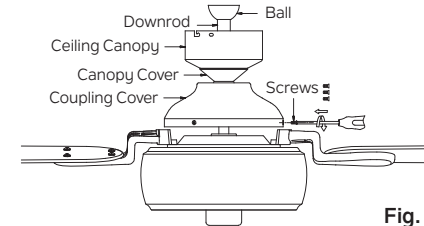

Fig. 12
**Step 10.** Tighten three set screws on coupling cover firmly (Fig. 12)